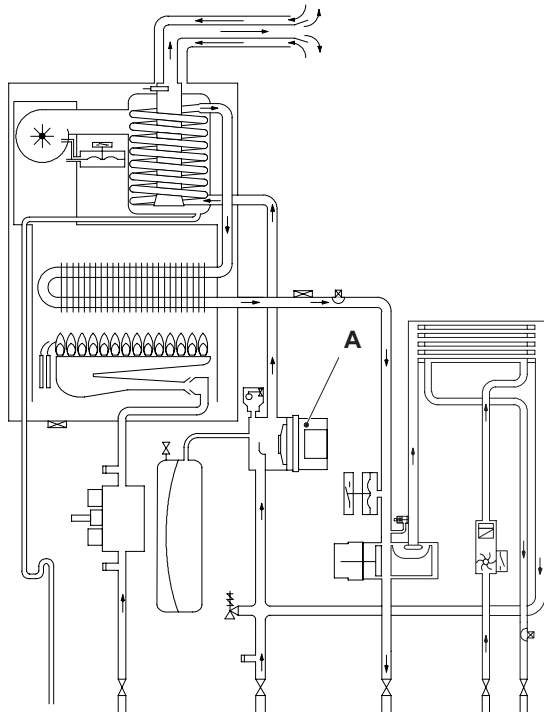
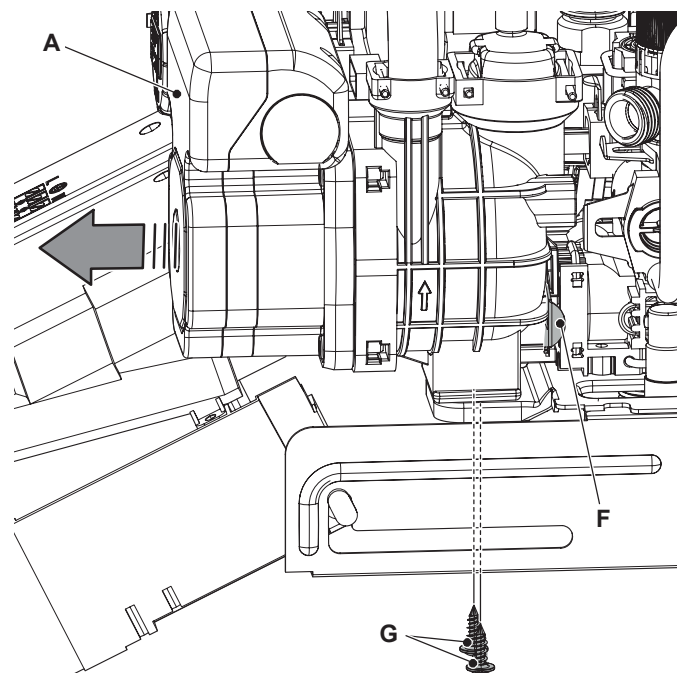

Figure 8.1
Figure 8.4
The pump A in Figure 8.1 and Figure 8.4 has the function of making the water in the main circuit circulate through the main heat exchanger, the condensing heat exchanger and therefore through the C.H. system (during the C.H. function) or through the secondary heat exchanger (during the D.H.W. function).
- 5 Remove the locking plate F (Figure 8.4).